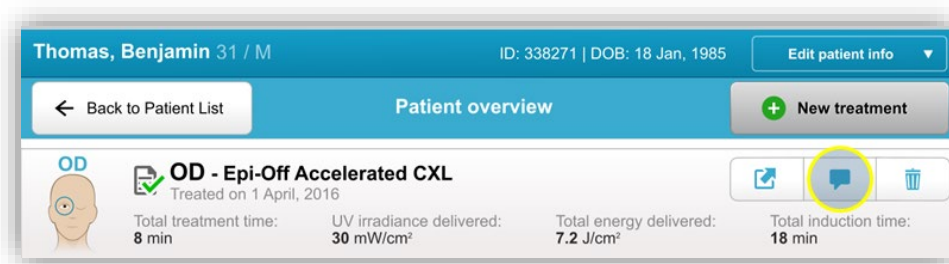

Figure 3-38. Comments Icon
- Press the message icon as shown in Figure 3-38 to enter comments about the patient's treatment.